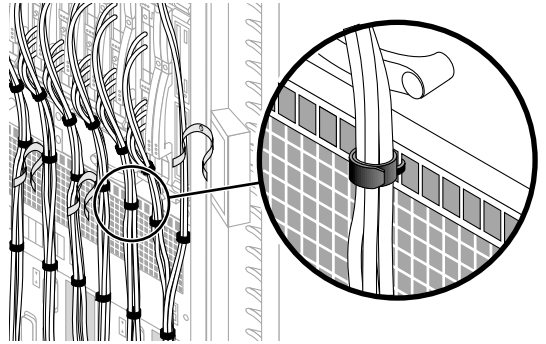

FIGURE 4 Cable Hanger Strap Holding Cables
- Using the side-cutting pliers or equivalent, at the air plenum, cut off the ends of the tie wraps and vertically secure each of the bundled I/O board set cables and the SC cables, to the permanently mounted black cable hanger straps (No. 3) (FIGURE 4).